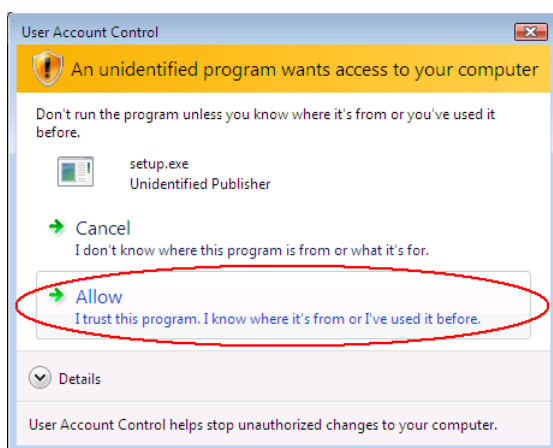
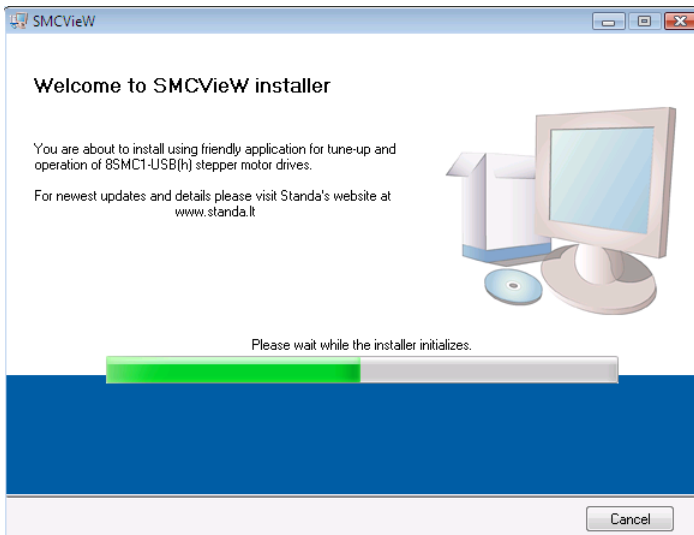

Figure 40. SMCVieW 1st installation screen
Figure 41. SMCView 2nd installation screen
- Press the "Allow" button to continue the installation (see Figure 40).
Note: Screen on Figure 40 appear on Windows Vista with enabled UAC only. On Windows Vista with disabled UAC or Windows XP you will see Figure 41 after launch setup.exe.
- Please wait while the installer initializes (see Figure 41).
Note: Next installation process will be shown for Windows XP operating system. Software installation processes under Windows Vista/2000 is just the same. The only difference on Windows Vista is presence screen like Figure 40 at the beginning of installation.